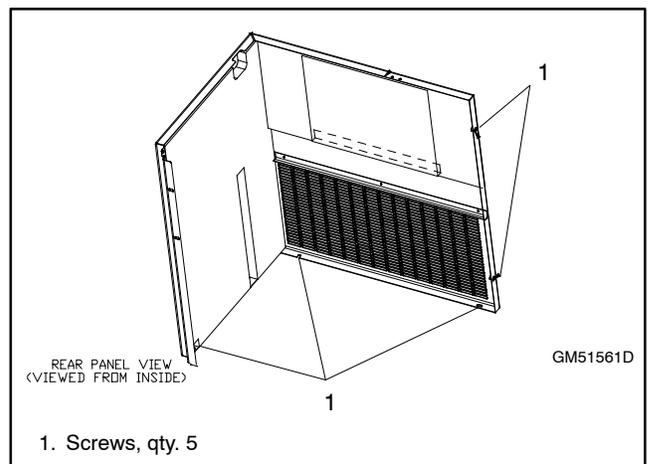

Figure 6-6 Rear Panel Mounting Screw Locations (viewed from inside the enclosure)
- From the inside of the enclosure, remove five screws to remove the rear (exhaust end) panel. See Figure 6-6.